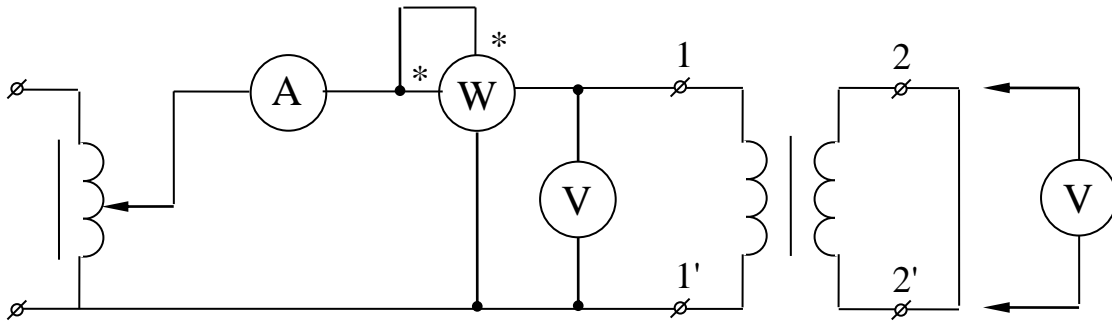

Fig. 5.14
3. Collect the electrical circuit (fig. 5.14). Investigate the transformer at short circuit mode with a nominal input current I_{Inom} . Vary the current by changing input voltage. Fill in the table 5.2 with results.